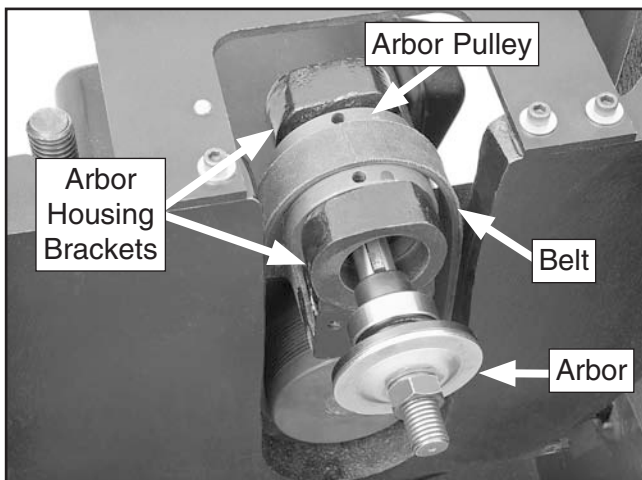

Figure 142. Re-installing arbor and belt.
24. Place the arbor pulley between the arbor housing brackets, slide the belt over the pulley, then insert the arbor into the pulley, as shown in **Figure 142**.